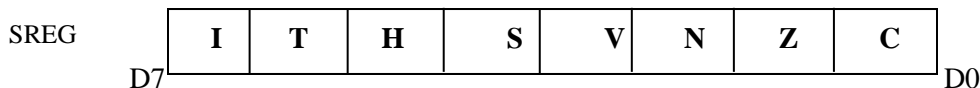

Fig. 1.8: Each Bits of Status Register
- The Figure below fig 1.8 shows bits of Status Register